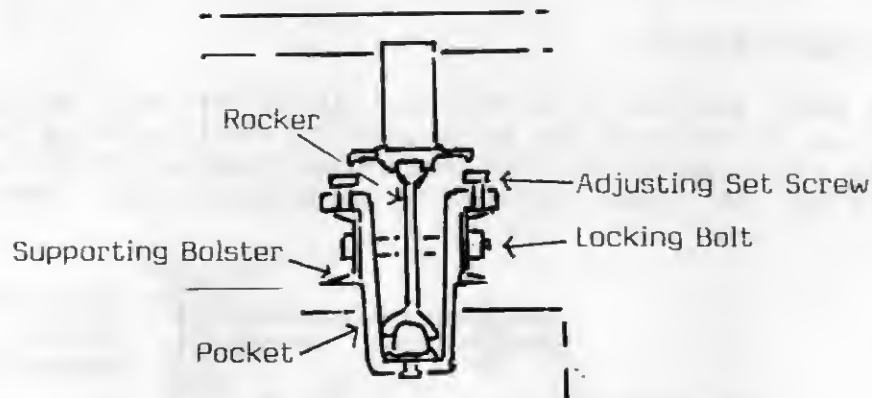

Fig. 11 The Rocker Pockets
- (i) Longitudinal Level: The inclination of the table lengthwise may be adjusted by the raising or lowering of the rocker pockets at each end of the deck. (See fig. 11)